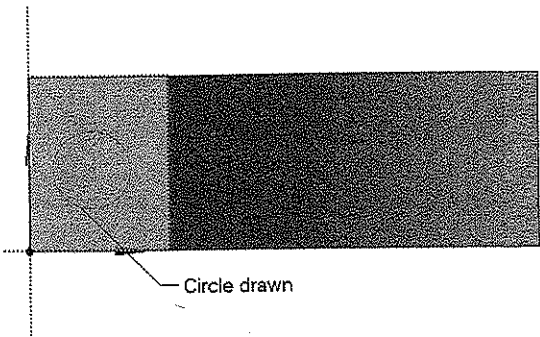

Figure 3-105 Creating circle on the defined sketching plane
6. Choose the **Circle** tool from the **Draw** toolbox and draw a circle as shown in Figure 3-105.